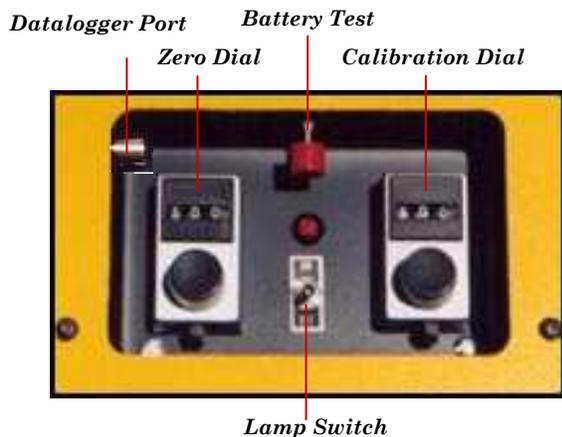

Figure 1 - Top Control Panel
- Toggle the Main Power and Lamp Switches to their "on" positions (Figures 1 and 2)
- Press red Battery Test Button (Fig. 1)
4. Unlock the Zero Dial (Fig. 1) and adjust until "000" reads on the digital display. **Note: Both the Zero Dial and Calibration Dial have small levers at their bases that keep settings secure. Move the levers to the left to change settings, and back to the right to lock the dials. The numbers on the dials themselves are for factory calibration purposes only. If the dial readings ever approach 100 or 900 while**
6. With the digital display at "000", turn on the lamp and allow to warm up for one to three minutes **or** until reading stabilizes (Fig. 1).
Every two to three weeks the battery should be discharged in the unit by turning on the power supply and lamp until the voltage reading is below 10.0-volts (This corresponds to a reading of "100" on the display. Remember to press the Battery Test Button in Figure 1 when checking the voltage). This could take up to five hours depending on the battery's state of charge. This procedure will ensure that the Ni-Cad batteries do not develop a memory that will reduce their capacity.